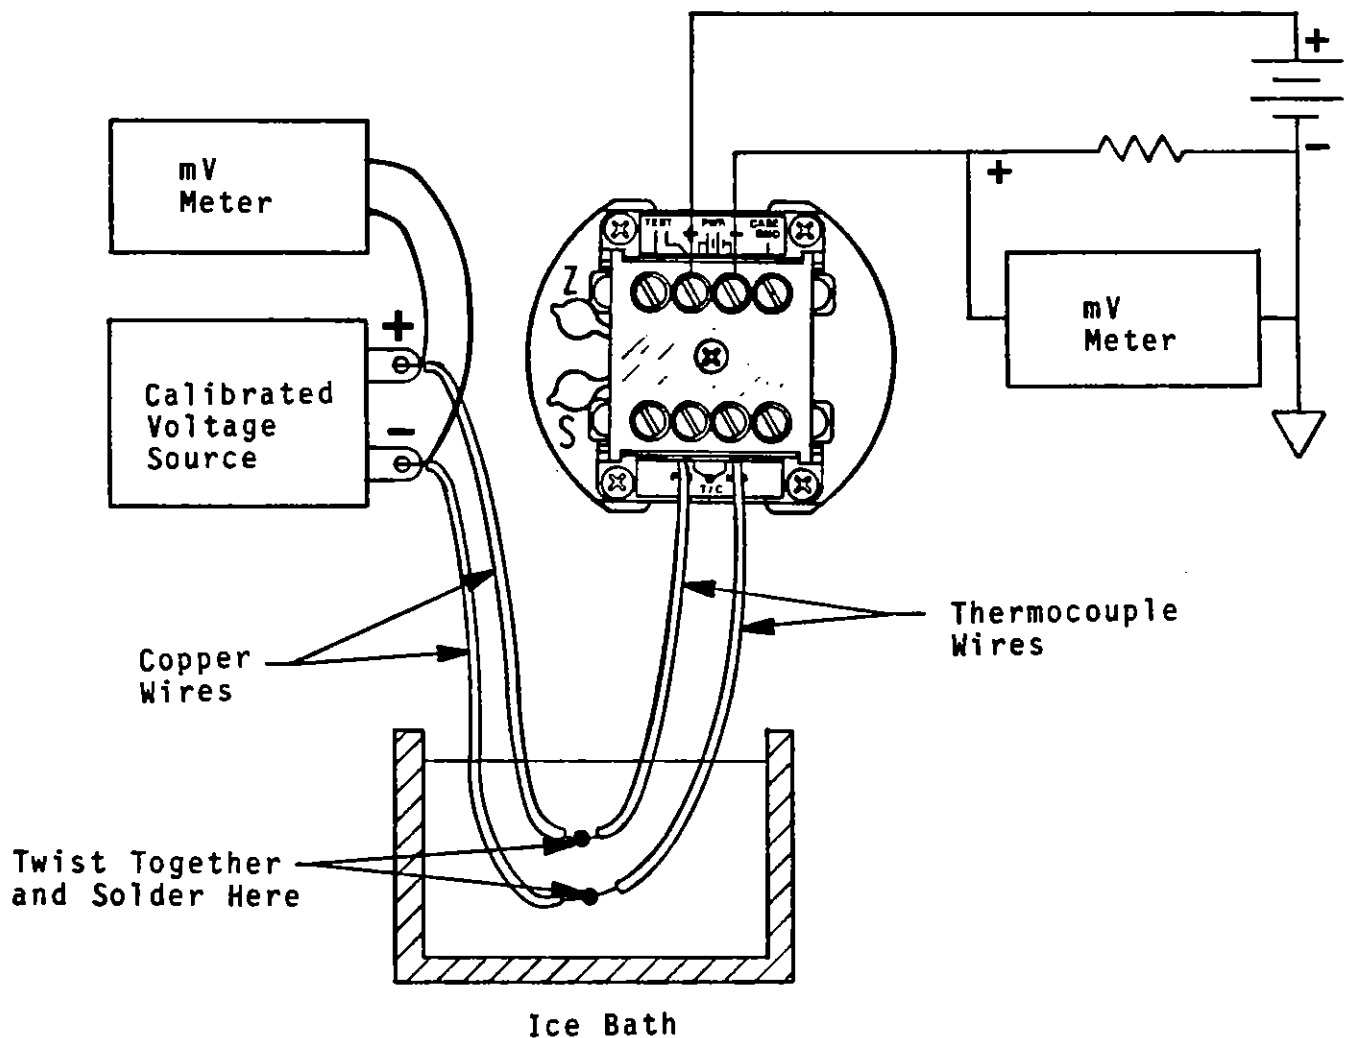

Figure 5-3 Calibration Setup
4. Referring to Figure 5-3, hook up the calibration and output circuits.